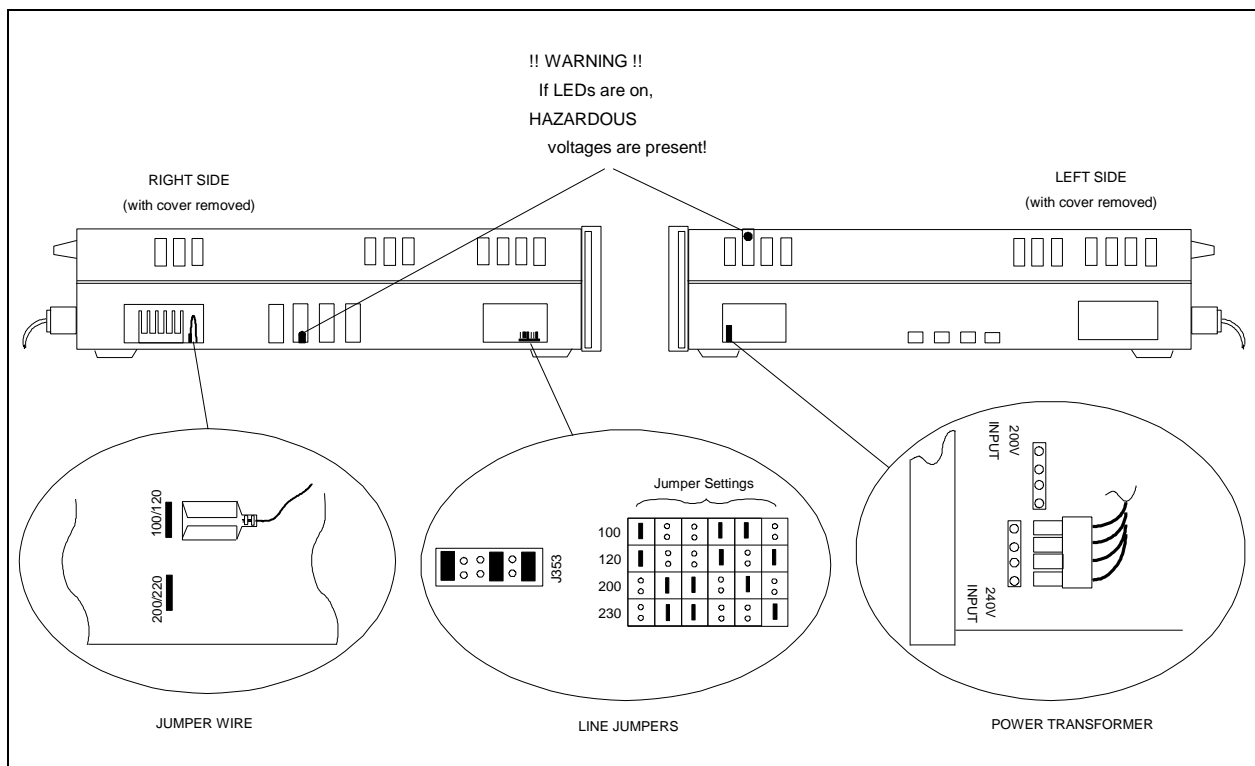

Figure D-1. Line Voltage Conversion Components
- ◆ Locate the line voltage jumper wire in the cutout at the side of the unit by the line cord (see Figure D-1).